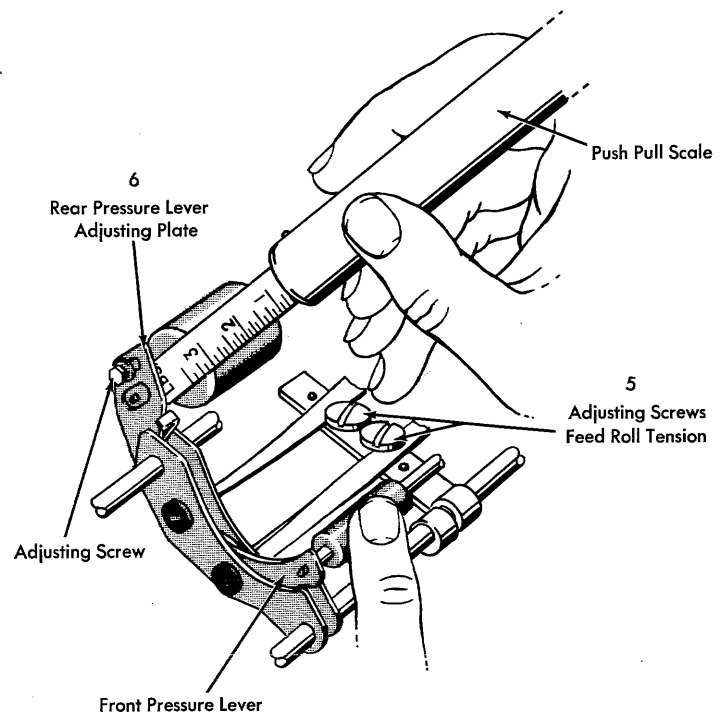

Figure 22. Feed Roll Pressure Adjustment
determine the torque of the twisted flat springs. The screws are positioned so that a pressure of 12 to 16 ounces is necessary to deflect each feed roll pressure lever. A push-pull scale may be applied at the ends of each feed roll shaft to make a reading of this adjustment (Figure 22). **NOTE:** Depress the front feed roll pressure levers when checking the pressure of the rear feed roll pressure levers.
6. Position the rear-feed-roll pressure-lever adjusting plates by their adjusting screws so that the levers cause the front pressure levers to be deflected an equal amount during paper release (Figure 22). When two IBM cards are inserted between the rear feed rolls and the platen, the front feed rolls should have a slight amount of drag. If five IBM cards are inserted, the front feed rolls should be free to turn. Too much clearance of the front feed rolls decreases their tension and adds greater tension to the rear feed rolls.